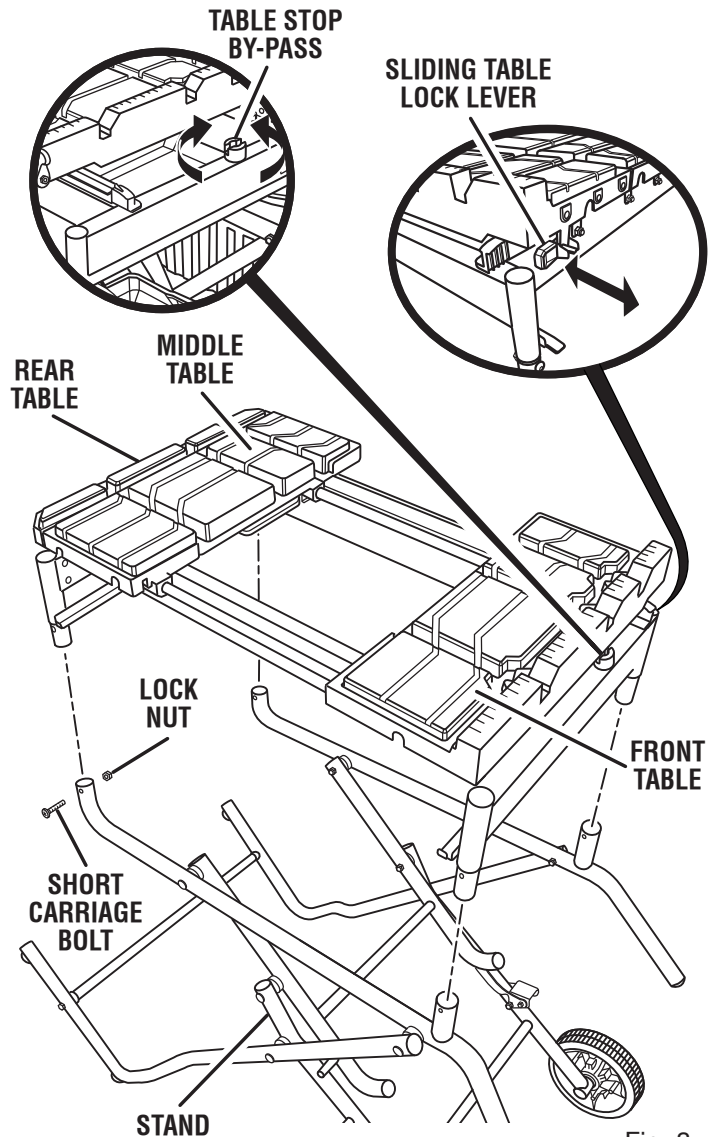

Fig. 8
See Figure 8.
- Slide the tubes on the water tray frame assembly into the tubes on the leg stand. As shown in figure 8.